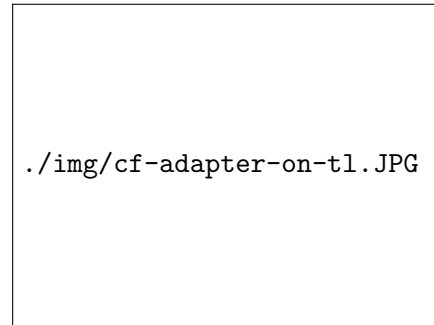

Figure 5.3: Adapter on vacuum jacket pump out.
4. Pull the adapter stem out about an inch and fit the adapter on the TL pump out until almost the entire vacuum jacket pump out is covered (Figure 5.3).